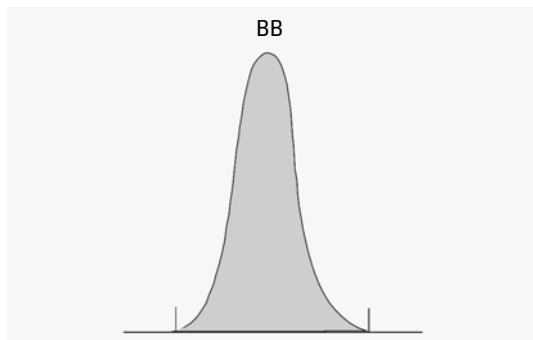

Figure 10 Area measurement for Baseline-to-Baseline Peaks
- for baseline-to-baseline (BB) peaks, the area above the baseline between the peak start and peak end, as in Figure 10 on page 32,